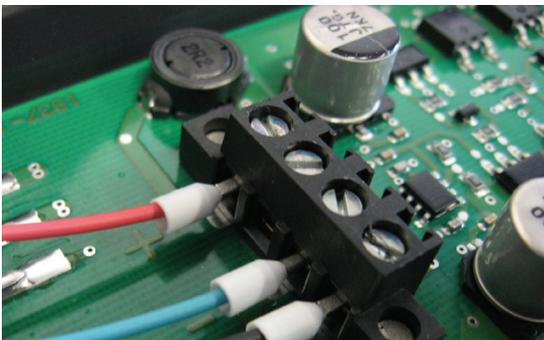

Figure 11: Connector X1
- o Remove the three leads on Connector X1 (figure 11), the six leads on connector X2 (figure 12) and the shield connection to the heatsink (figure 12).
- o Connect the new electronics module (colors as in fig. 11 and 12). Mounting torque for the earth connection screw is 0.55 N·m; mounting torque for the terminal screws (3 and 6 leads) is 0.5 N·m.